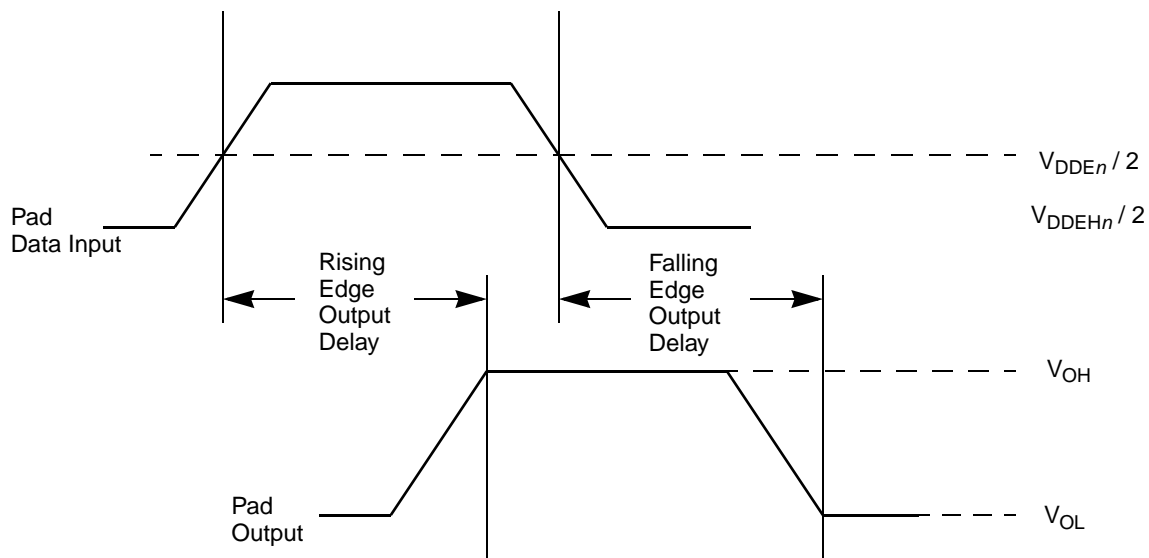

Figure 7. Pad Output Delay
- ⁵ Out delay is shown in Figure 7. Add a maximum of one system clock to the output delay for delay with respect to system clock.
⁶ Out delay is shown in Figure 7. Add a maximum of one system clock to the output delay for delay with respect to system clock.
⁵ Out delay is shown in Figure 7. Add a maximum of one system clock to the output delay for delay with respect to system clock.